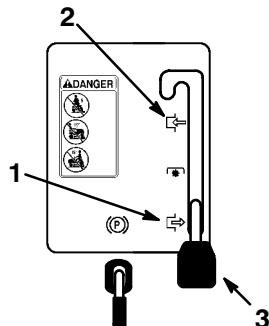

Figure 8
4. Move the PTO to Disengaged (Fig. 8).